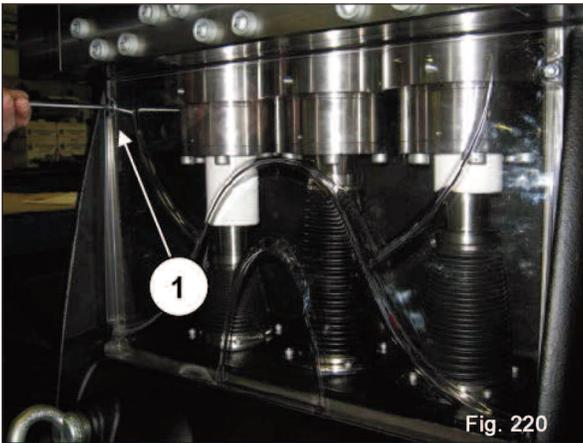
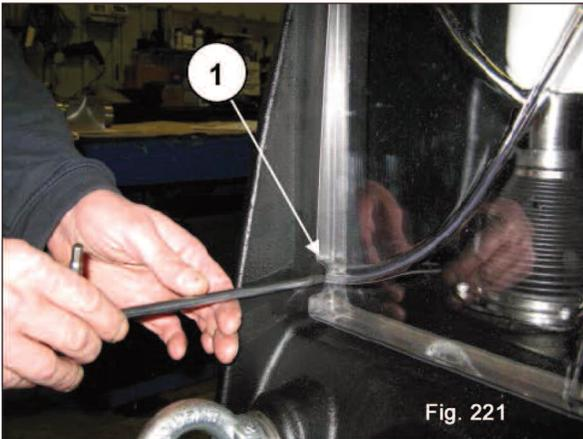

Fig. 220
Fig. 221
Now refit the upper inspection cover and secure it by carefully tightening the (4) M6 fixing screws (1, fig. 220 and fig. 221).